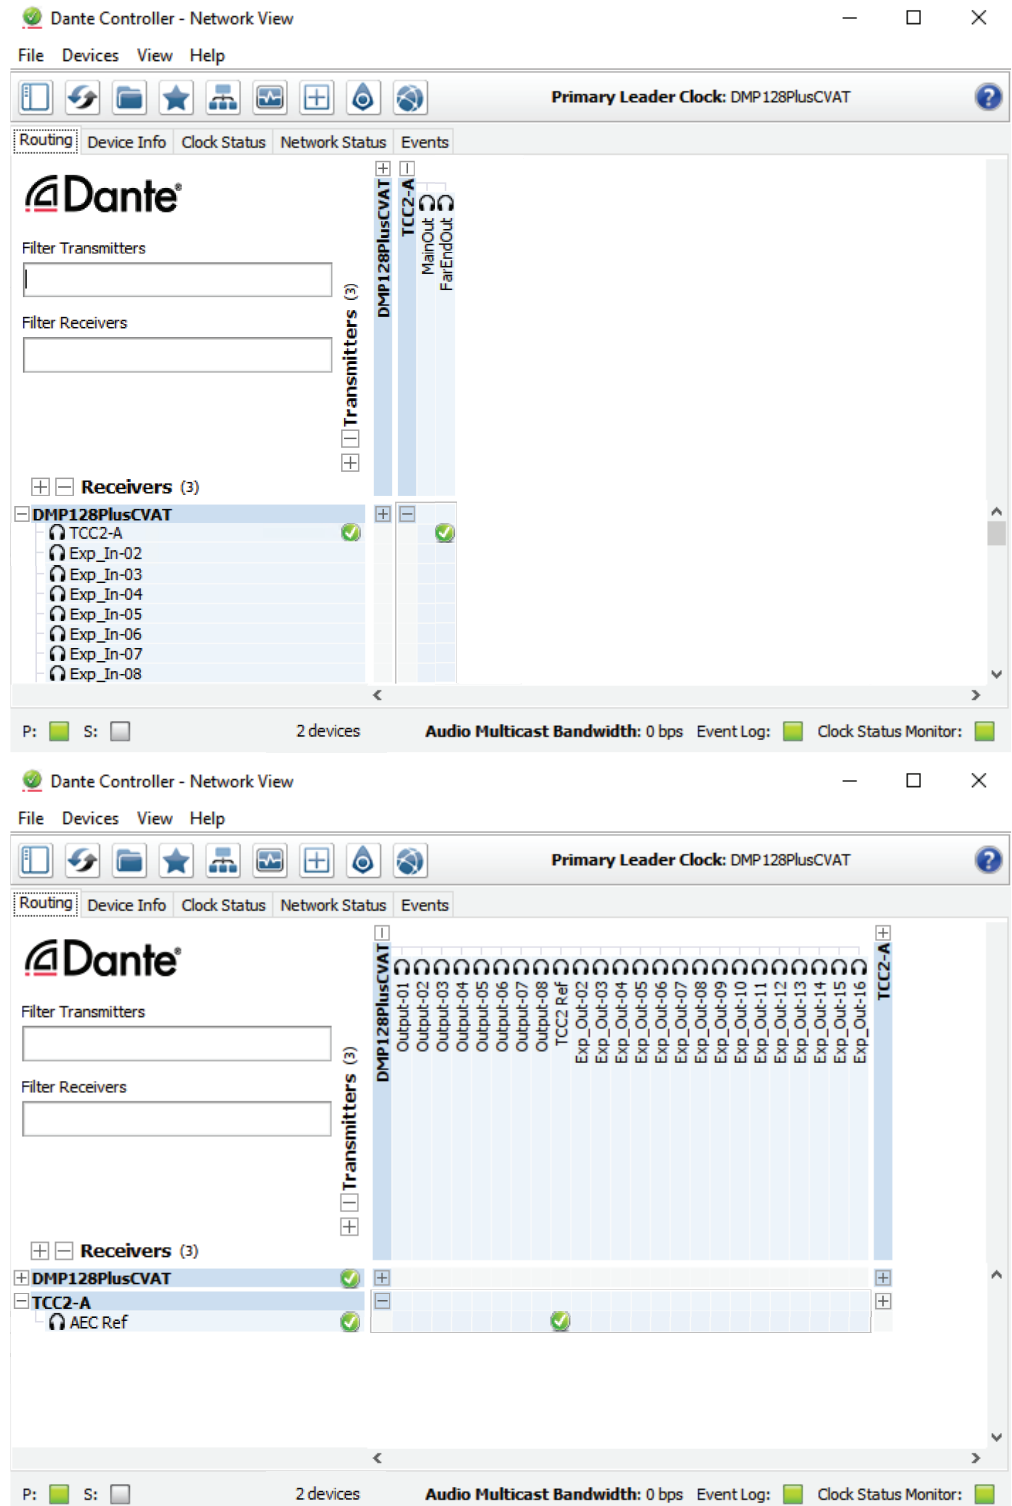

Figure 13. Network View Screen
10. To show the transmitters of a Dante device, click the **+** box next to the desired device in the **Dante Transmitters** panel, such as **TCC2-A** (see figure 13 on page 9). The **+** changes to a **-** sign when the device expands.